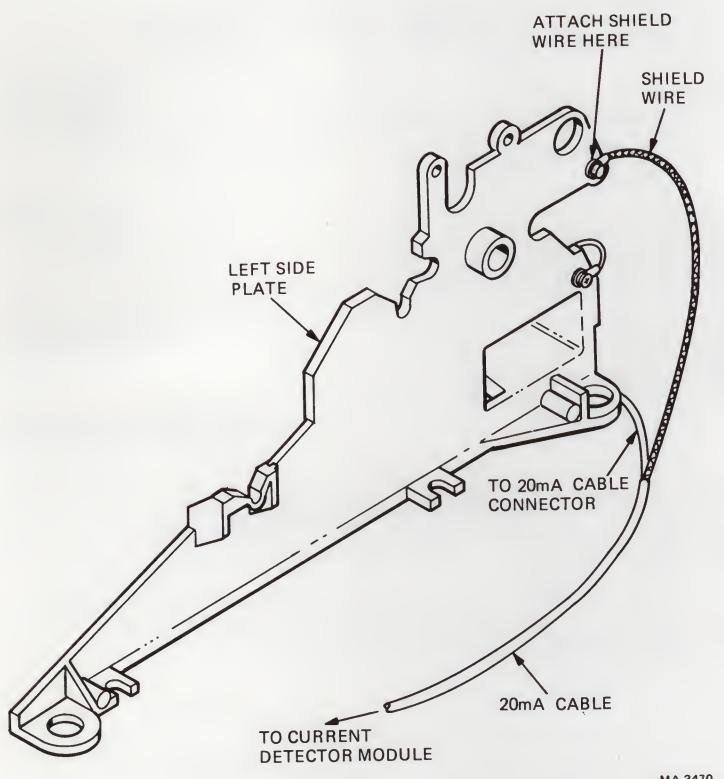

Figure 8-16 Attaching Shield Wire to Right Side Plate
9. Secure the shield wire on the 20 mA cable to the left side plate using existing hardware (Figure 8-16).